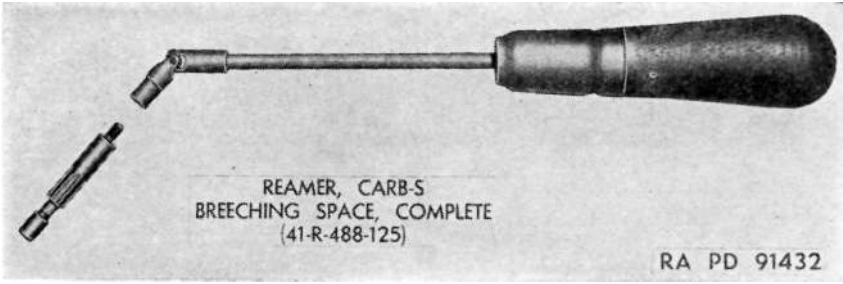

Figure 15. Reamer.
*l.* REAMER, CARBINE-S., BREECHING SPACE, CARBINE, CAL. .30 COMPLETE 41-R-488-125 (fig. 15). This tool is a reamer connected to a handle by means of a universal joint. The universal joint permits the reamer which is in alignment with the barrel to be rotated by the handle protruding from the receiver at an angle.